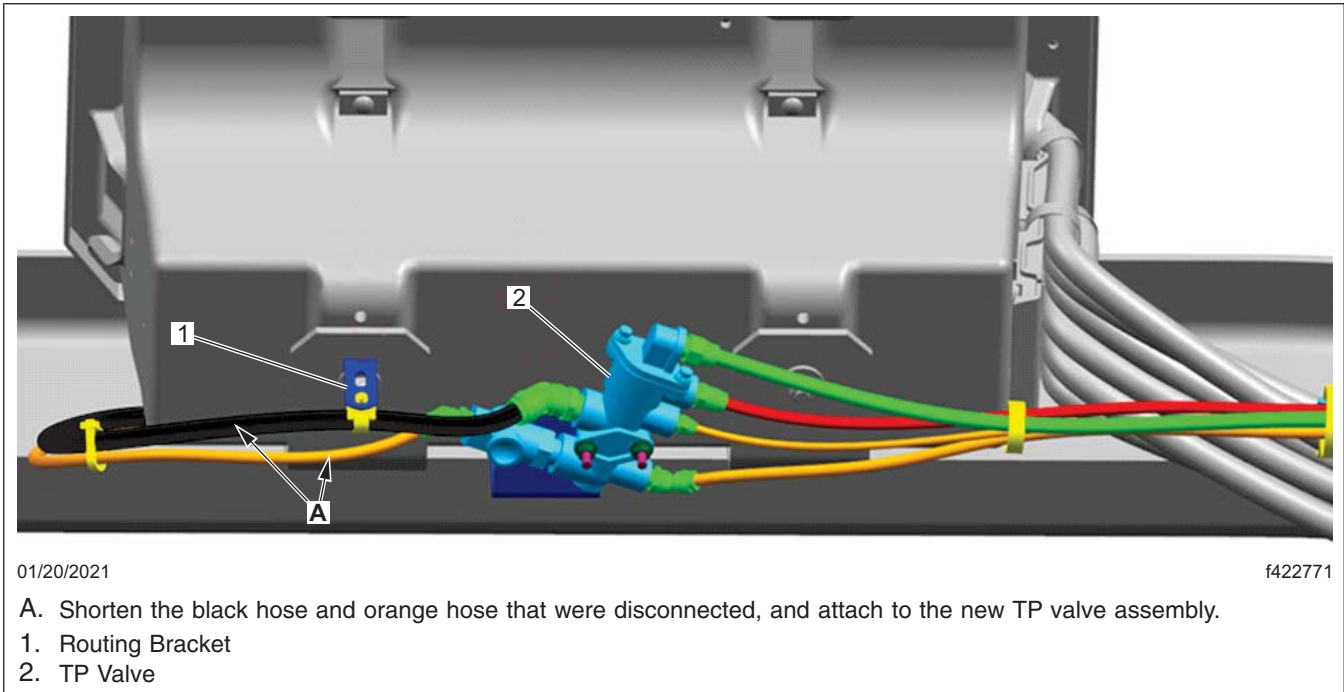

Fig. 36, Shortening the Black and Orange Hoses
17. Shorten the black hose and orange hose that were disconnected, and attach to the new tractor protection valve assembly. Install the routing bracket on the rear battery box mount. See Fig. 36.